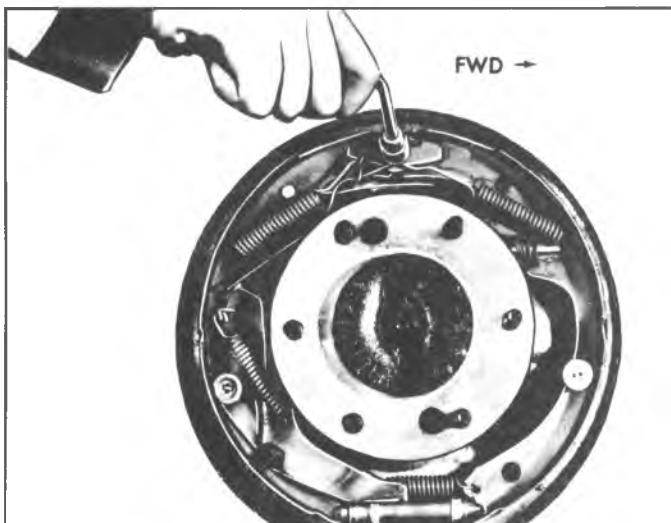

Fig. 47--Unhooking Pull Back Spring
4. Unhook brake shoe pull back springs from anchor pin and link end, using tool J-8049 (fig. 47).